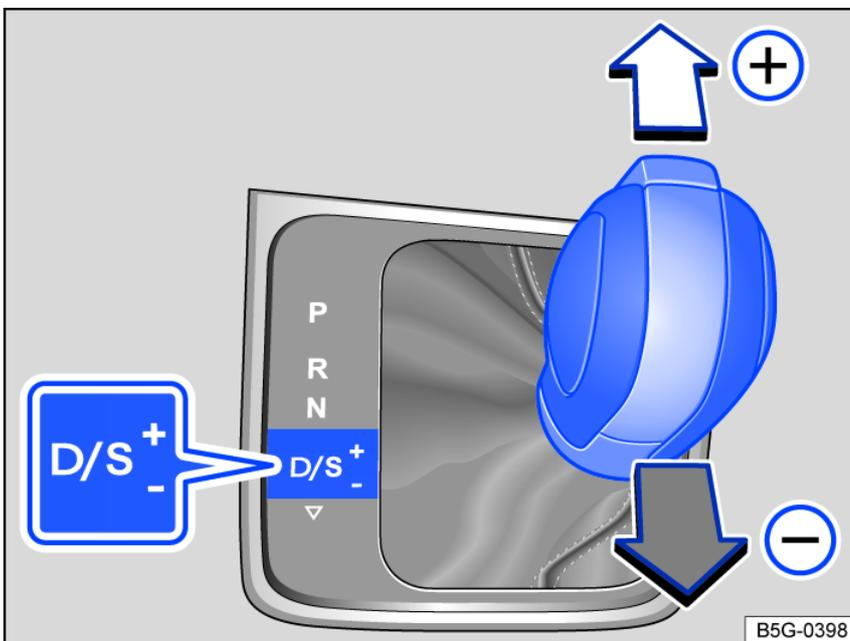

Fig. 119 Selector lever in tiptronic position.
- Tap the selector lever forward **+** or to the rear **-** to upshift or downshift *fig. 119*.